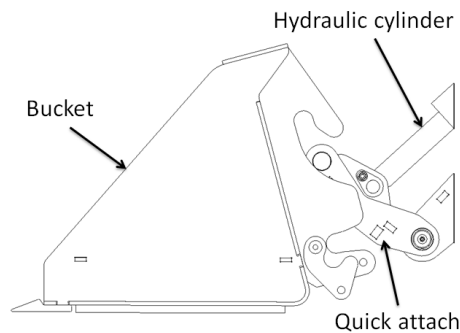

Figure 7 : Removing the bucket - Step 3
3. Using the hydraulic system, tilt down the quick attach (left side of the hydraulic system joystick, see the Wireless remote controller section) until its upper section is free (see Figure 7).